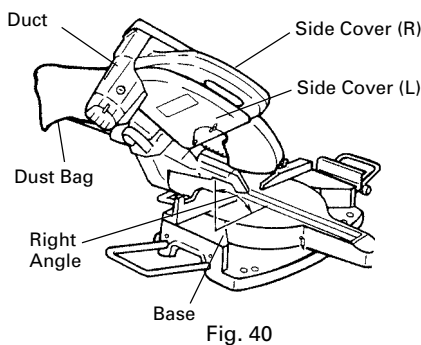

Fig. 40
- (1) When the dust bag has become full of sawdust, dust will be blown out of the dust bag when the saw blade rotates. Check the dust bag periodically and empty it before it becomes full.
- (2) During bevel and compound cutting, attach the dust bag at a right angle to the base surface as shown in Fig. 40.